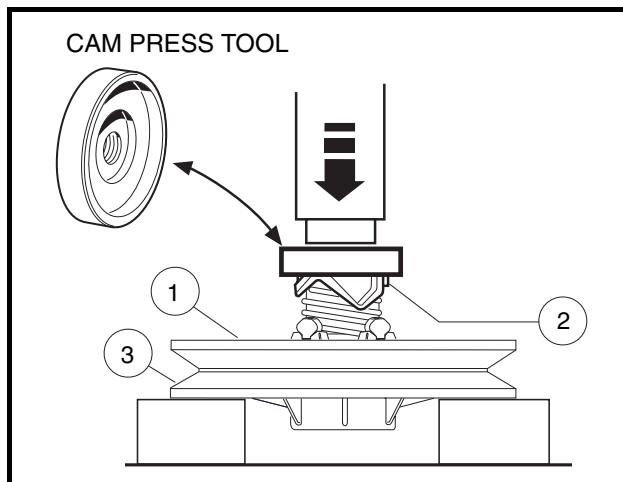

Figure 17-19 Cam Press Tool
- 5.1.1. Place the clutch assembly in a press and position the cam press tool (CCI P/N 101809101) on the cam as shown (**Figure 17-19, Page 17-15**).
- 5.1.2. Hold the fixed face assembly (3) and rotate the moveable face assembly (1) one-third turn **clockwise**, then press the cam (2) onto the fixed face assembly (**Figure 17-19, Page 17-15**).
- 5.2.4. Hold the clutch assembly and cam installation tool together and place the fixed face down on spaced blocks (**Figure 17-19, Page 17-15**).